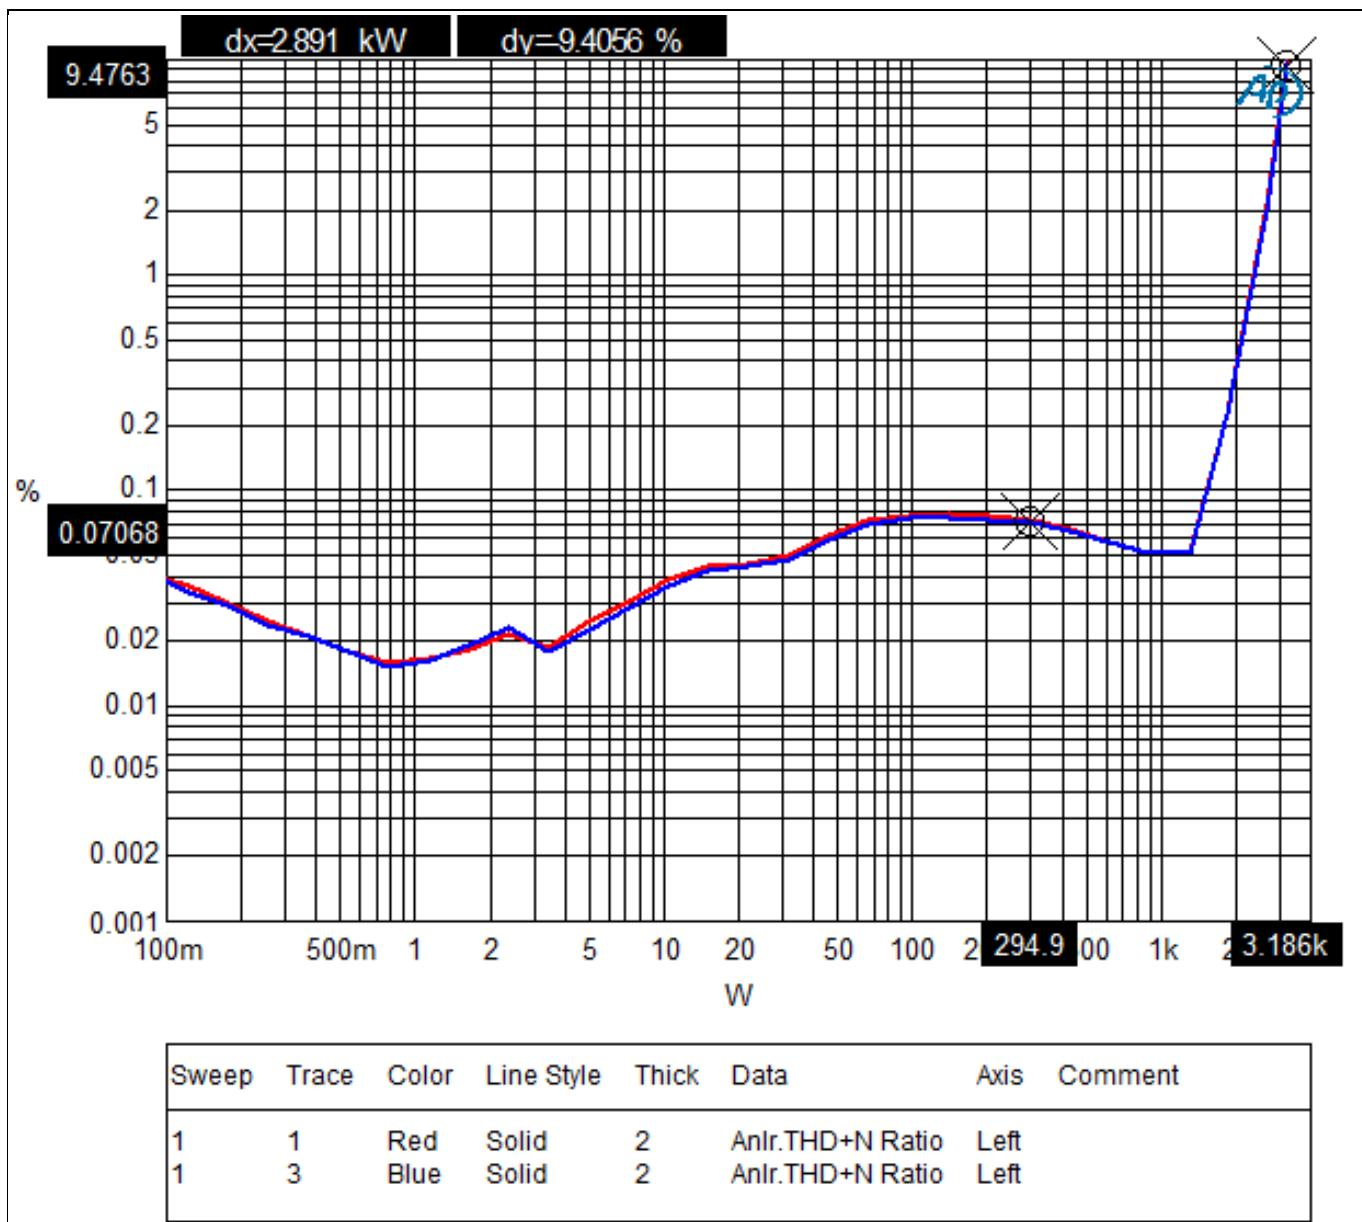

Figure 6 THD+N vs Power sweep for CH1 and CH2 with clock injection
10. Run AP THD+N vs Power test as shown in **Error! Reference source not found..** The obtained results should look similar to Figure 6.